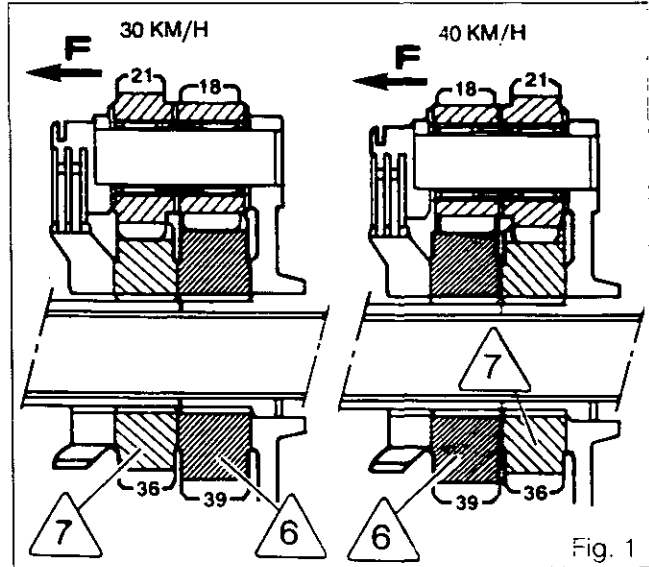

Fig. 1
- 30 km/h or 40 km/h version (Fig. 1)